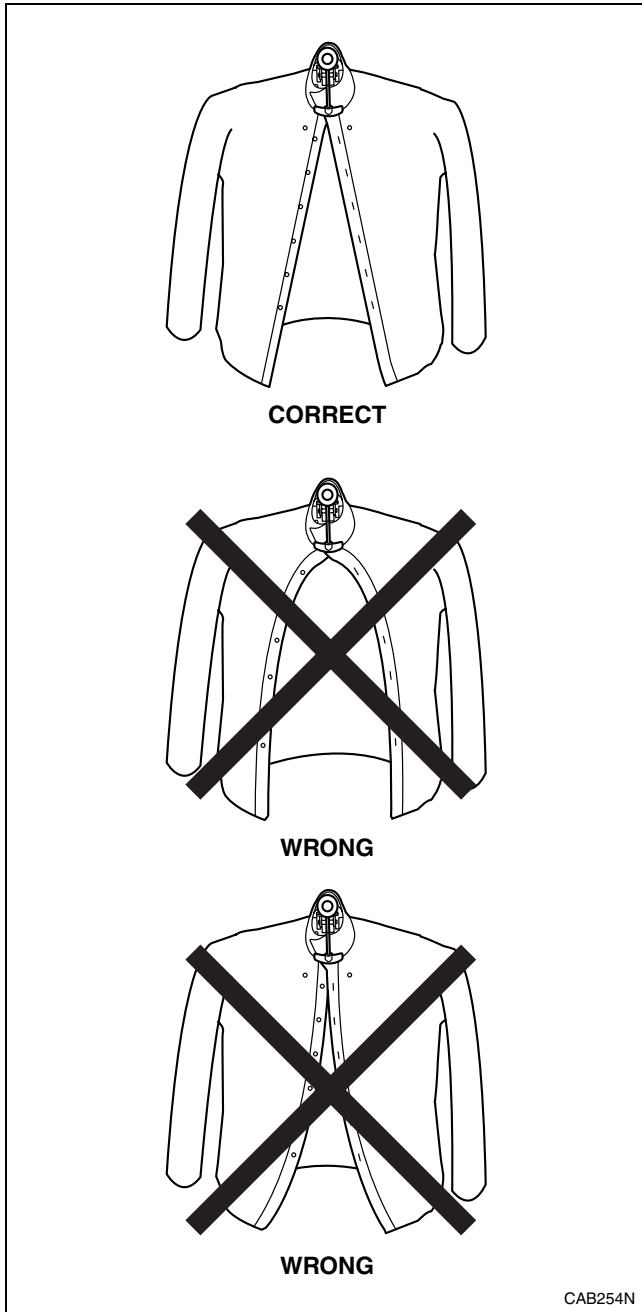

Figure 13
9. Notice a natural "A" at shirt's placket. The gap at the bottom is related to shirt size. The larger shirts will have a smaller gap. Refer to *Figure 13*.
10. Using the thumb and first finger of both hands, grasp bottom of placket and side seam on right side of shirt. Gently pull downward. Pull placket downward in the direction of the "A." Refer to *Figure 13*.